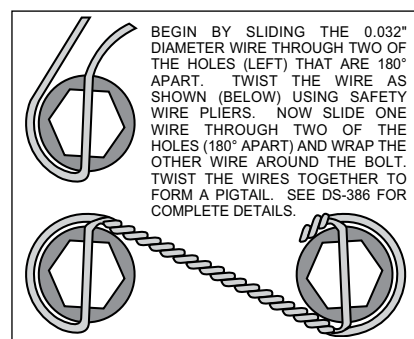

Figure 5. Safety Wire Diagram
- With the larger I.D. side of the rotor (4) facing away from the hat (3), bolt rotor (4) to hat (3) through the backside of the rotor using washers (5) and bolts (6). Apply red *Loctite*® 271 to the bolt threads and torque to 155 **in-lb** using a criss-cross pattern. For an added measure of security, the bolts may be safety wired using standard 0.032 inch diameter stainless steel safety wire as shown in Figure 5. Please refer to Wilwood's data sheet DS-386 (available at www.wilwood.com/Pdf/DataSheets/ds386.pdf) for complete safety wire installation instructions.
- Slide the rotor registration adapter (18) onto the axle register on the axle flange with the smaller O.D. facing toward the rotor/hat (3). Align the correct hole pattern in the hat with the stud pattern on the axle flange. **NOTE:** Some OEM and aftermarket axles come with stud sizes larger than 0.50" diameter. Verify stud size and have a qualified machine shop drill the hats to the correct size, if necessary. Slide the hat/rotor assembly (3 and 4) over the wheel studs covering the bracket kit assembly (1) and against the axle flange face.